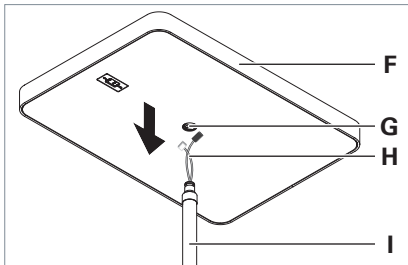

Fig. 8: Inserting the light head.
- Place the light head **F** on the column **I** while passing the cables **H** through the opening **G** at the light head, see Fig. 8.